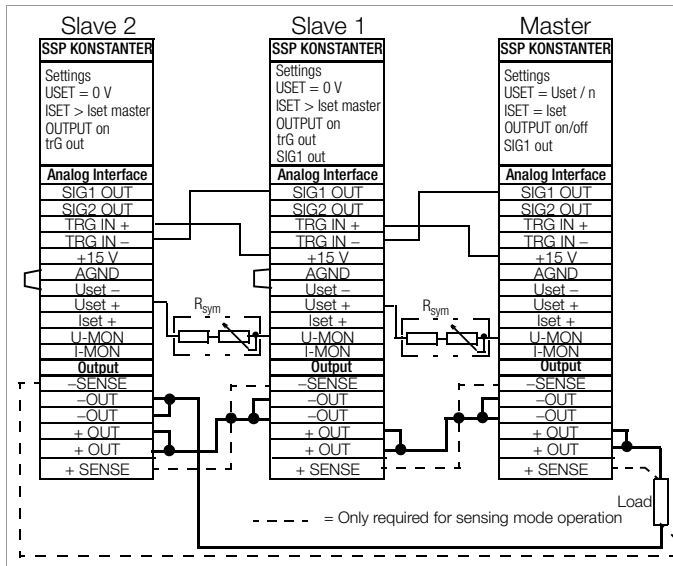

Figure 5.10.2 Wiring for Master-Slave Series Connection
- Connect **master** and **slave** devices as shown in Figure 5.10.2.